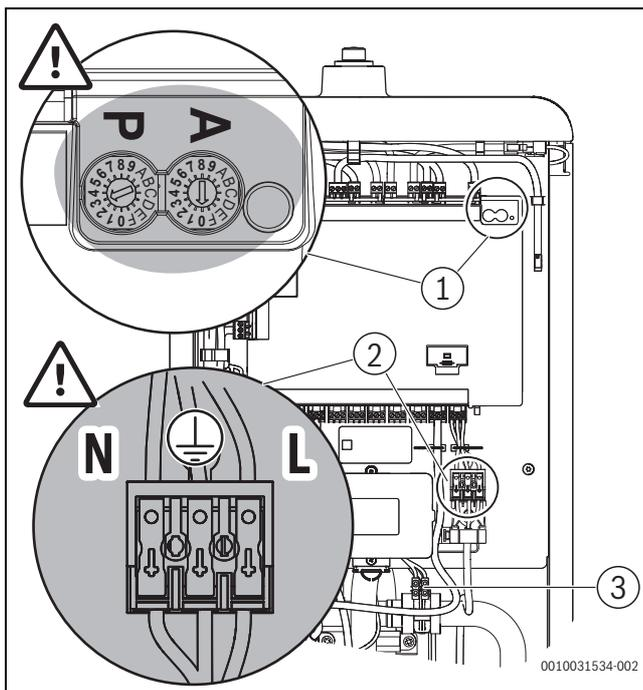

Fig. 26 Connecting the power supply
A cable of the type H05V2V2 F, 3x1.5 mm2 which is 2.5 m in length is connected as standard to the mains power supply terminal (→Fig. 26). Alternatively an on-site connection can be established using a suitable cable.
- ▶ Connect the mains power supply via the mains power supply terminal on the retaining plate (→Fig. 26, [2]).
- ▶ Make sure the potentiometer setting is correct for hybrid application (**P=3 and A=0**) as shown in figure 26, [1]. If necessary, turn the direction arrow to the corresponding position with a screwdriver.